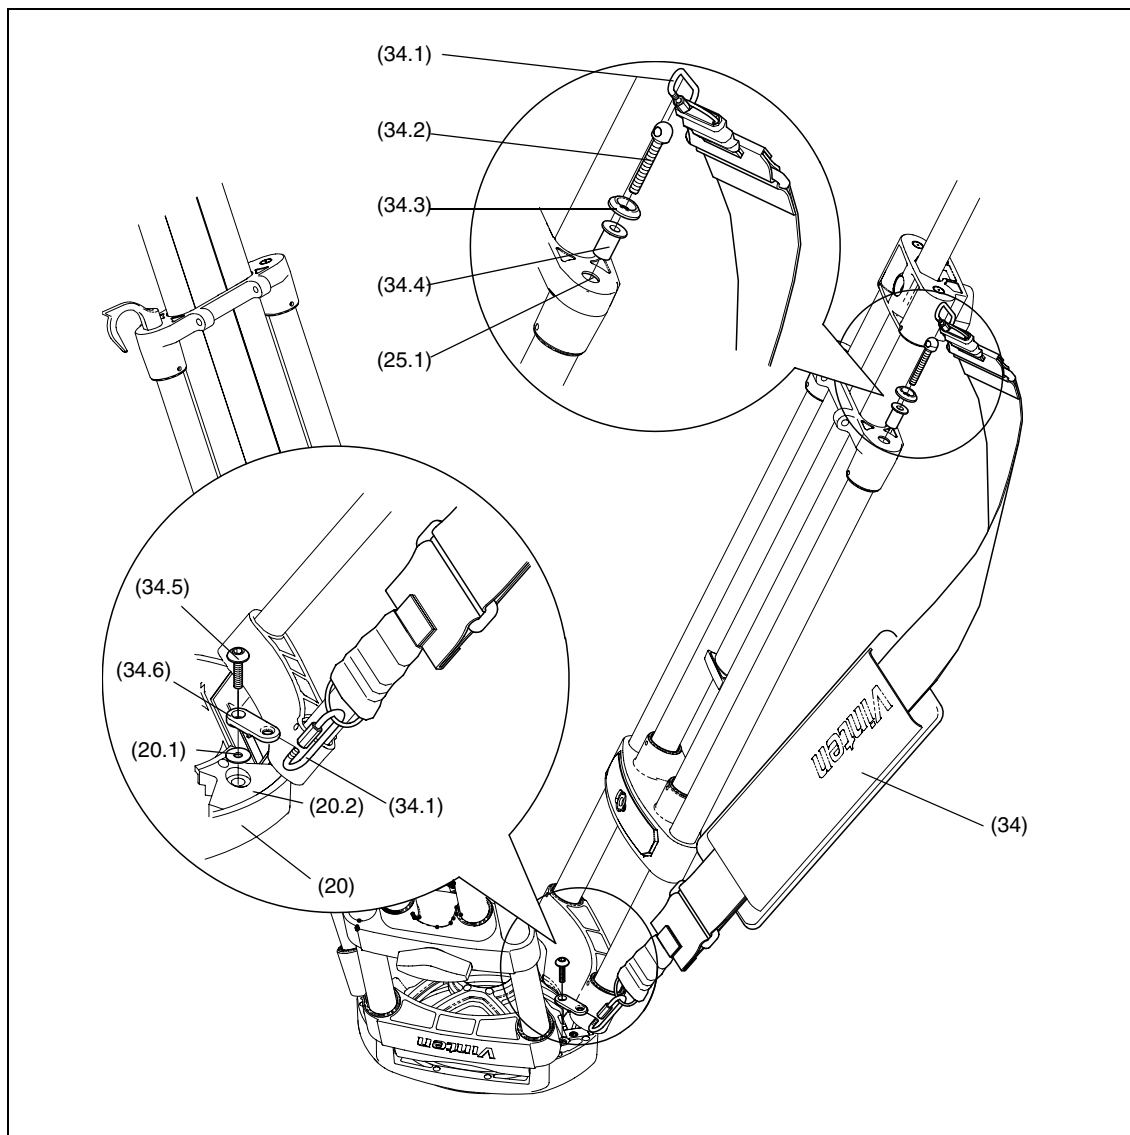

Fig 6 Carrying strap installation
A carrying strap (34) (Fig 6) is available as an optional accessory and is installed as follows: